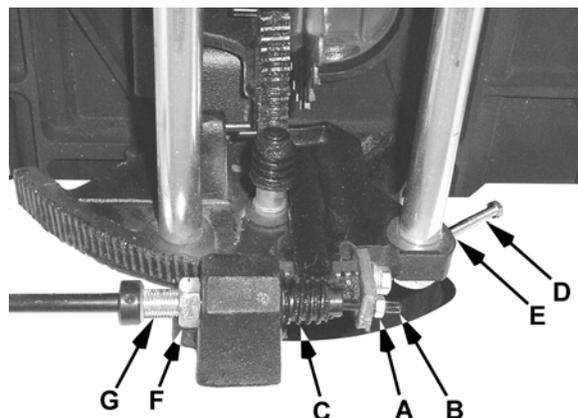

Figure 31
Adjustment, if required, is performed on the gear mechanism located underneath the table as shown in Figure 31 and described in the following steps.
Referring to Figure 31:
2. Loosen the lock nut (F, Fig. 31).
3. Turn the eccentric sleeve (G, Fig. 31) until play is removed. The flat area on the sleeve accommodates a wrench.
4. Tighten the lock nut (F, Fig. 31).